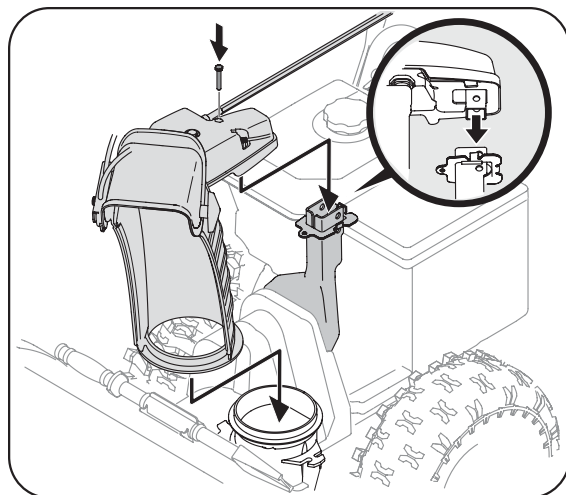

Figure 3-4
3. Place chute onto chute base with the hex rod positioned *under* the handle panel. Reinstall the hex bolt previously removed *but do not secure with wing nut at this time*. See Figure 3-4.